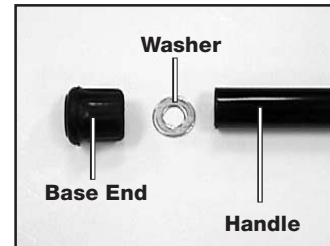

Figure 10
13. Place one of the 5/8" washers (12) supplied into the bottom of each base end cap (13), then onto the end of each handle. See Figure 10. **NOTE:** This will prevent damage to the bottom of the caps during use.